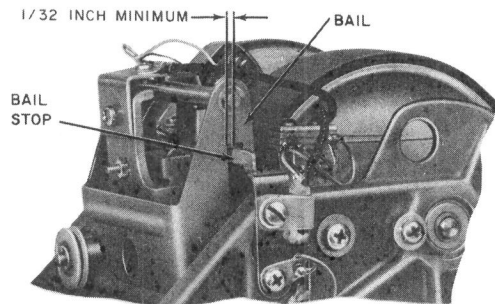

Fig. 15—Bail Stop Adjustment
3.29 Bail Stop Position (Fig. 15): With the magnetic head in the electrically operated position, the clearance between the side of the slot in the bail assembly and the side of the bail stop